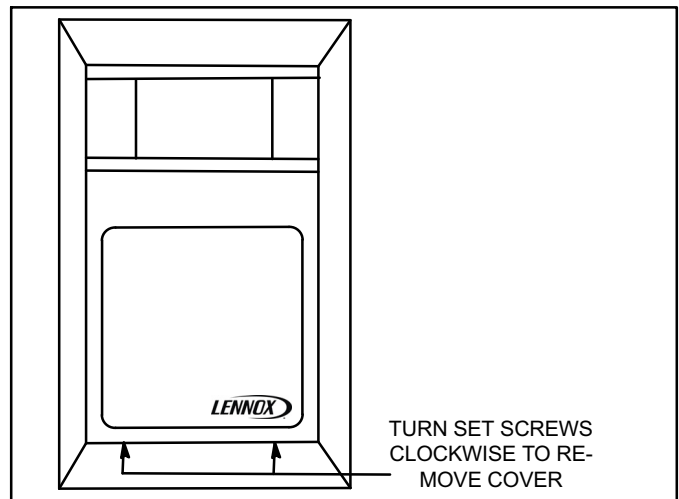

Figure 3. Temperature/Humidity Sensor (A37)
2. Loosen screws and remove sensor cover (see figure 3).